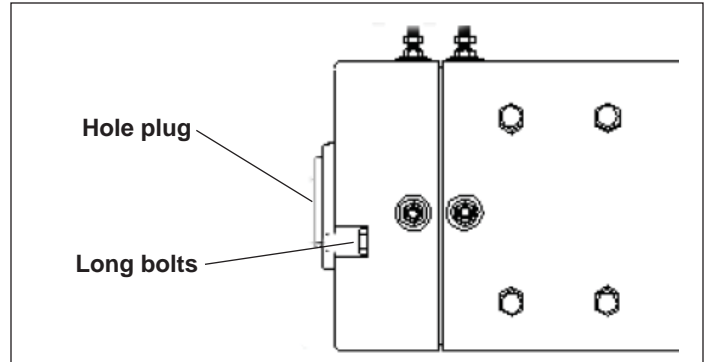

Figure 9-3. Traction Motor Hardware
- Remove long bolts. Remove motor head hole plug. See Figure 9-3.